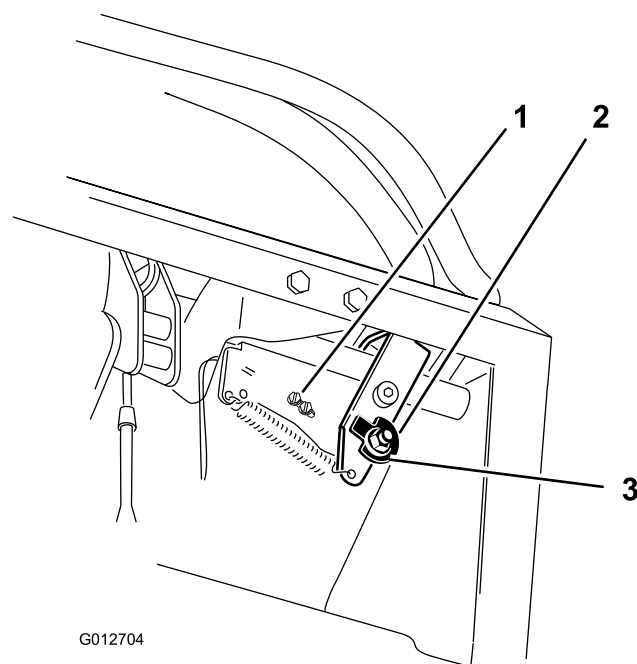
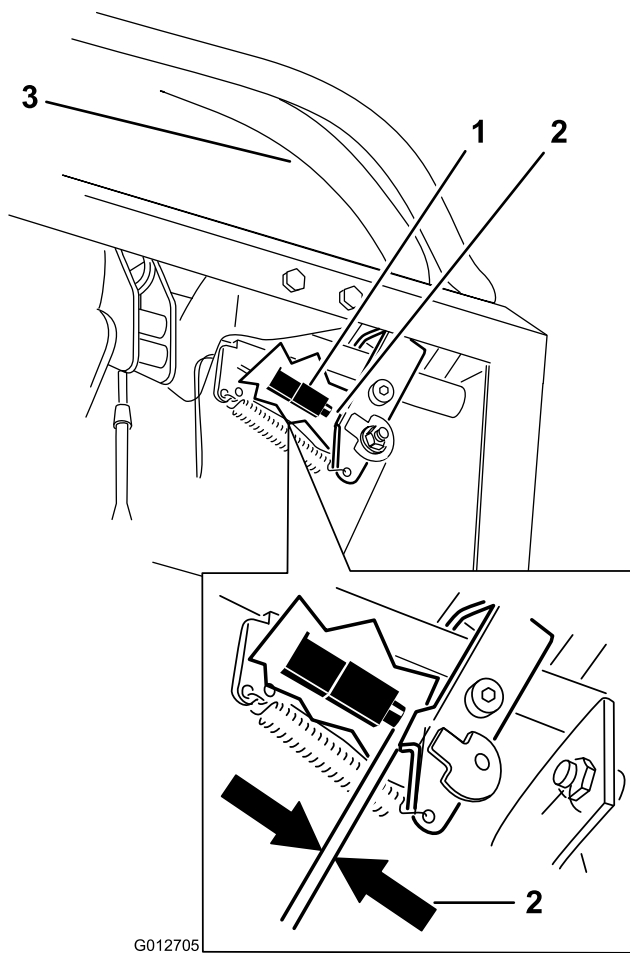

Figure 67
Figure 68
7. Loosen the nut holding the cam (Figure 67).
10. Check the gap between the control lever and switch as shown in Figure 68. The gap needs to be an 3 mm (1/8 inch) with the right motion control lever in the neutral, unlocked position.
11. If needed, loosen the screws holding the switch and adjust the switch (Figure 67 and Figure 68).